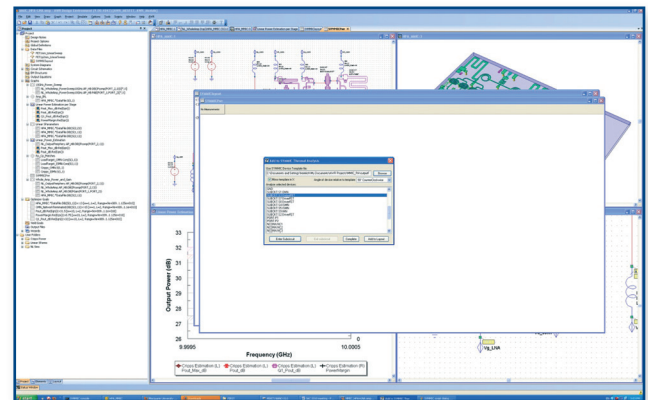

Figure 4. SYMMIC thermal analysis script - dialog 2: From the top-level hierarchy the layout is traversed to find the source/analysis devices.
6. For the device selected in step 5 above, find the hierarchical element corresponding to the layout cell for that device. In the case of the OutputFET selected in figure 4, we must go down 1 level of hierarchy. To do this, click the Enter Hierarchy Subcircuit button and select all of the elements associated comprising the artwork described by the template. In figure 5, the eight elements selected all use this single template.